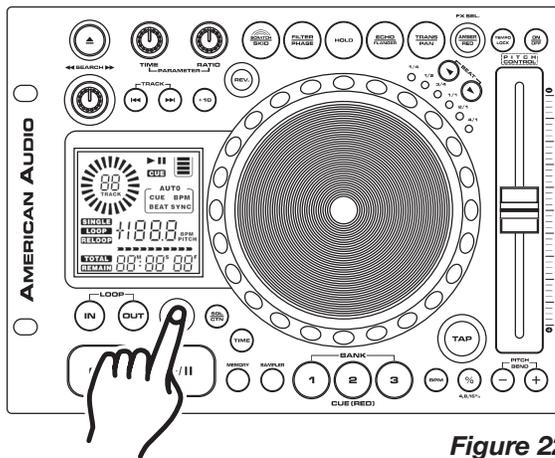

Figure 22
REPLAY LOOP - The **RELOOP (23)** function allows you to return to your stored loop at any time. The **IN BUTTON (25)** and **OUT BUTTON (24)** L.E.D.s will indicate a loop is stored in memory, and may be played at any time. To replay the loop, press the **RELOOP BUTTON (23)**. The **IN BUTTON (25)** and **OUT BUTTON (24)** L.E.D.s will again begin to flash indicating SEAMLESS LOOP mode has been activated (Figure 22) and your stored loop will immediately begin to play.
Please Note: Only the end point of the loop may be edited. You may make your loop shorter or longer. Before you can edit your seamless loop you obviously must first have created a seamless loop to edit. If you haven't created a SEAMLESS LOOP, follow the instructions in step 10 to create a loop. If a SEAMLESS LOOP has already been created, press the **RELOOP BUTTON (23)** to activate your SEAMLESS LOOP (Figure 22) if it is not already activated. To edit your seamless loop's ending point: